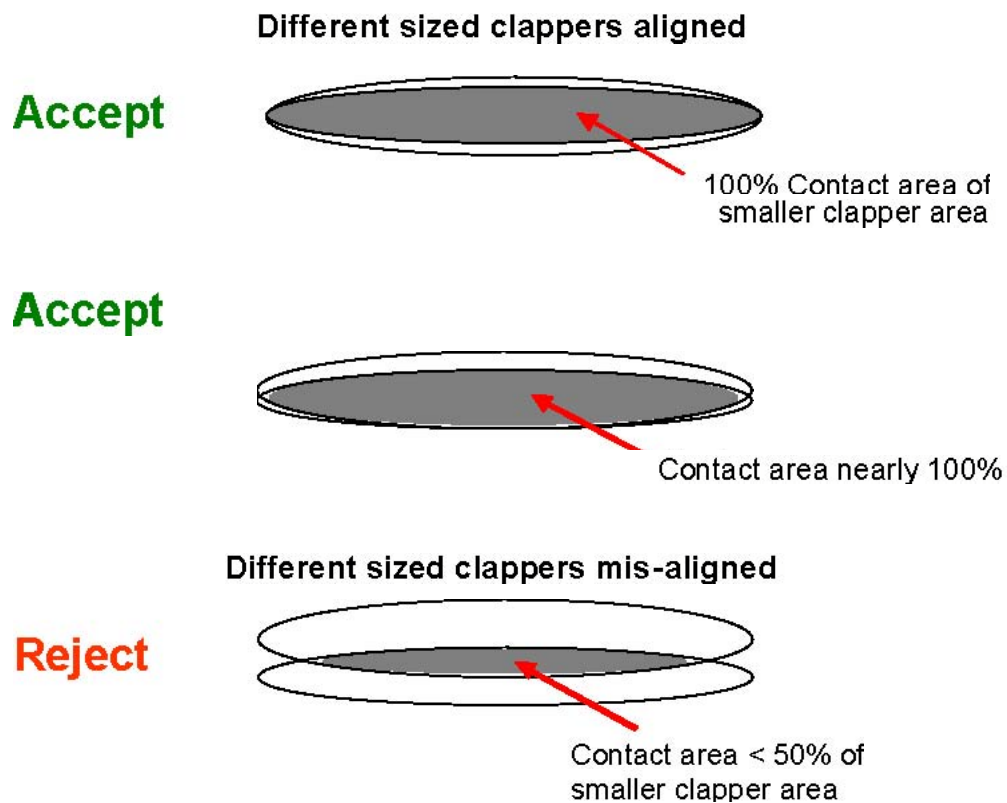

Figure 2: Clapper alignment Criteria
- (1) **Radial Alignment** – how completely the faces of the two contacting clappers are covering each other. This is given as a percentage with 100% alignment meaning they are completely aligned. Refer to figure 2.
Note: Refer to Figure 2 for clapper alignment acceptability. There can be gaps between the clapper faces and this can be acceptable. However, gaps can visually make the misalignment look worse. Be very careful when inspecting wear and misalignment where there is a gap between clapper faces. If unsure, review from other angles to better assess alignment. The minimum recommendation for reviewing clappers is to inspect from two different angles (to assess both the vertical and horizontal faces of the clappers).